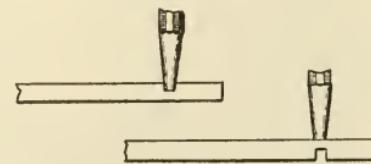

FIG. 190.—STEPS IN PUNCHING THE EYE.
3. Punching eye. — With the punch placed in the center of the flattened head, punch one half through the hot iron (Fig. 190). Reverse the iron